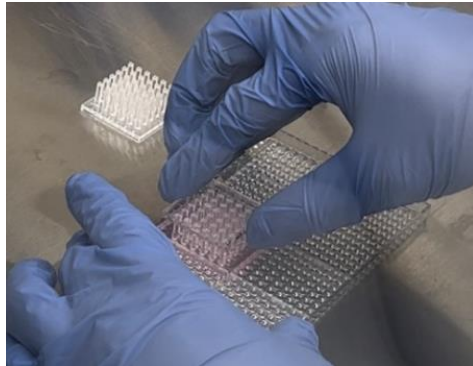

**Figure 2.** Dispensing 2.5 - 3 mL of the cell-alginate mixture per block in the LoadingPlate for rapid loading of the cells on the pillar plate.
- Place the LoadingPlate on a flat surface, dispense 2.5 - 3 mL of the cell-alginate mixture per small block, and spread it properly with the pipette tip (**Fig. 2**).